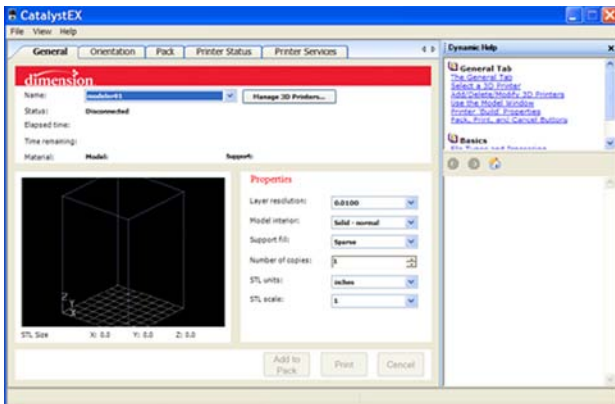

Figure 13: Catalyst main window
2. Click on the CatalystEX icon  on the desktop of your PC. The CatalystEX main window opens (Figure 13 on page 38).